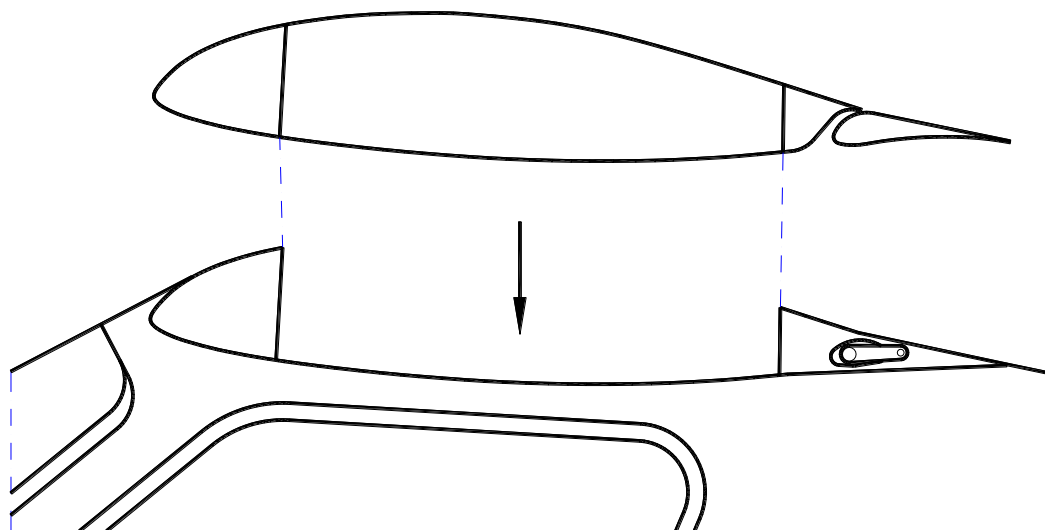

Fig. 8-1 Mounting the wing on the fuselage
- c) Put the wing on the fuselage in such a way that its central part slips into the gap over the cockpit. Flaps must be moved up in such a way they are above the flaps drive levers (Figure 8-1).